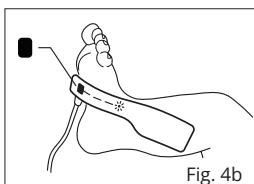

Fig. 4b
- Refer to **Fig. 4b**. Direct the sensor cable toward the leg (or arm). Apply the sensor around the lateral aspect of the foot (or hand), aligned with the fourth toe (or finger). Complete coverage of the detector window is needed to ensure accurate data.